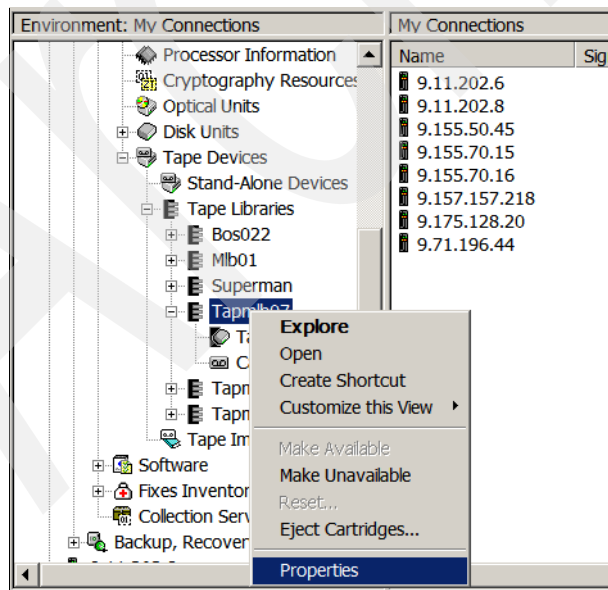

Figure 5-41 Series Navigator - bring up tape library properties
- ▶ In the iSeries Navigator left panel, expand *Tape Devices*, expand *Tape Libraries*, look for the newly connected tape library, and expand it. Right-click the tape library and select **Properties** from the pull-down menu that pops up, as shown in Figure 5-41.